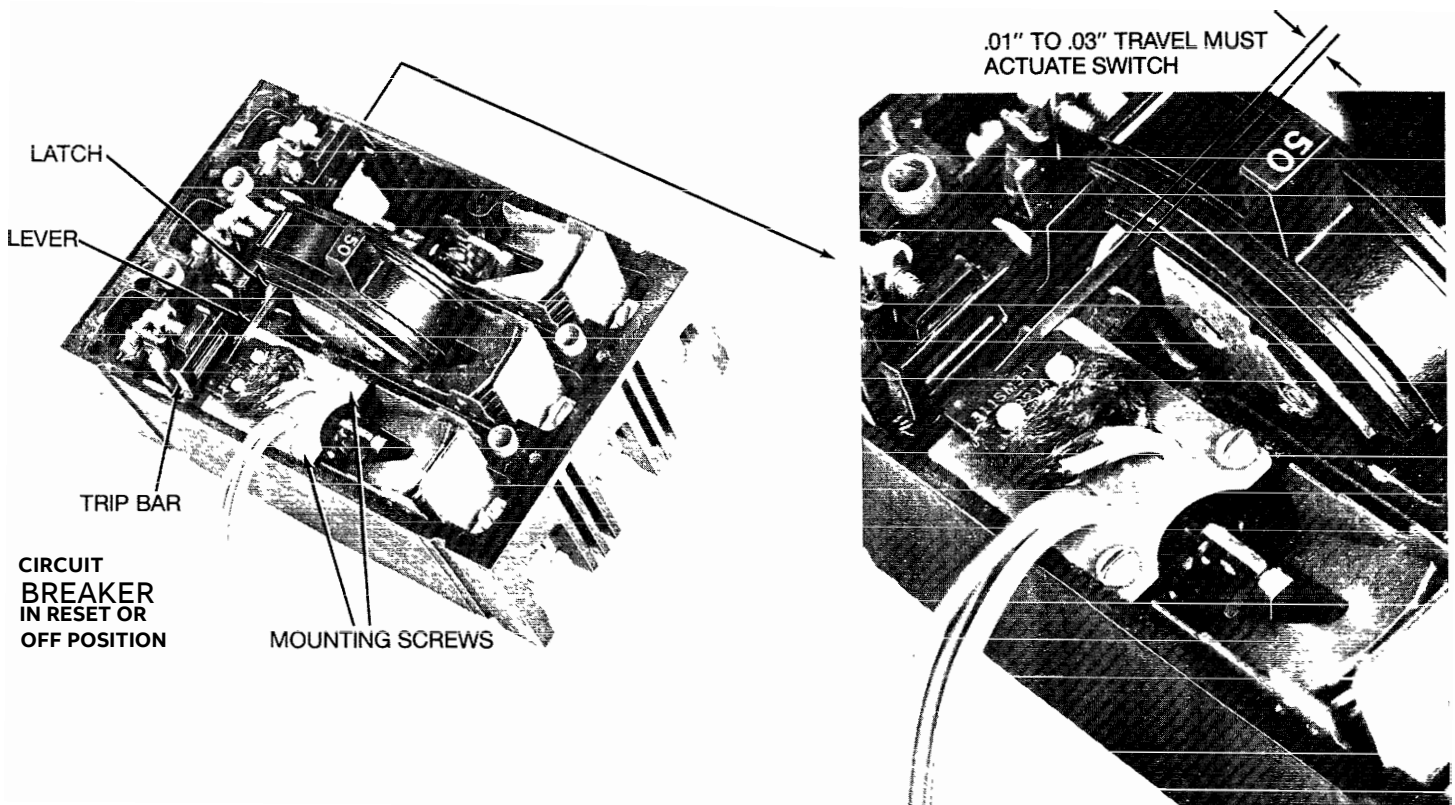

Figure 4
4. Install accessory as shown (Figure 4).
5. Adjust switch lever so that it actuates switch within-dimension shown with circuit breaker in reset position. Trip the breaker by pushing trip bar forward. Switch should actuate. If not, readjust. (Figure 4).